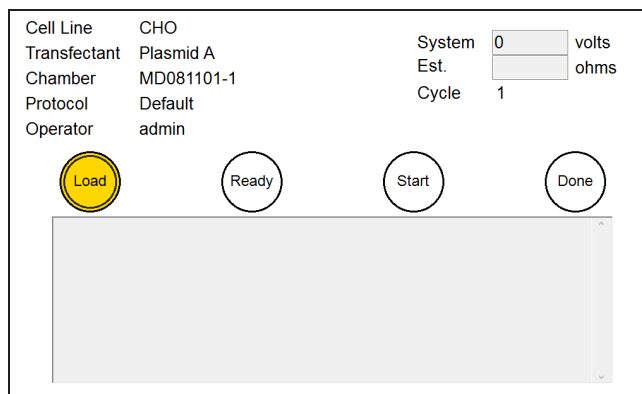

Figure 10: Pulse Delivery Screen — Pre-Pulse
3. Please refer to Figure 10: Pulse Delivery Screen — Pre-Pulse for steps 3 through 5. Touch the **Load** button. The system will automatically deliver a short low voltage pulse to estimate the load resistance. If the resistance is too low, the pulse will not be delivered. If the resistance is within acceptable limits, the **Ready** button will turn yellow.